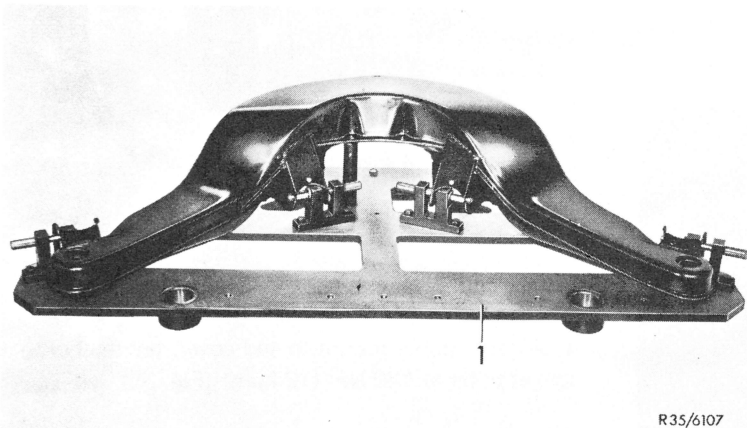

Fig. 2
- 5 Check rear axle carrier and replace carrier in event of deviation from inspection device (Fig. 2).